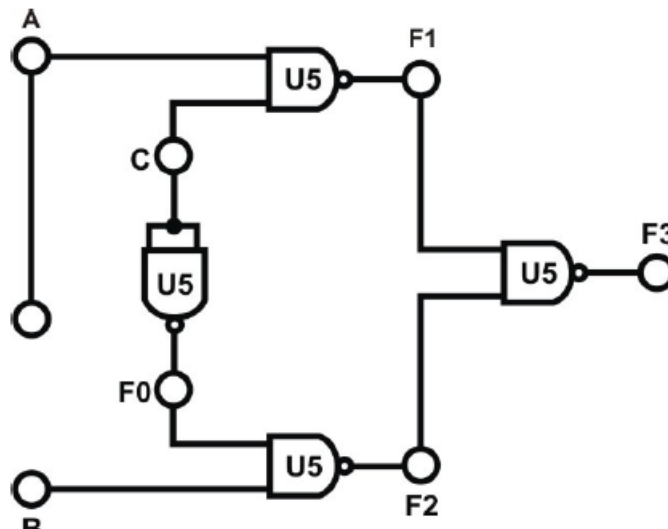

Figure 9: 2-to-1MUX
Bring IT-3005 and go on it like in figure 9 that contains mux with basic gates, as we see in figure 9 we have 2 input (A, B) and 4 output (F0, F1, F2, F3) and we use F3 as output now and we have another input selected (C), as we do previous connected A,B with Switches W0, W1, selected in W2 and F3 with L1 we have 8 status depends on C if it 1 or 0, in table 5 we see the result.